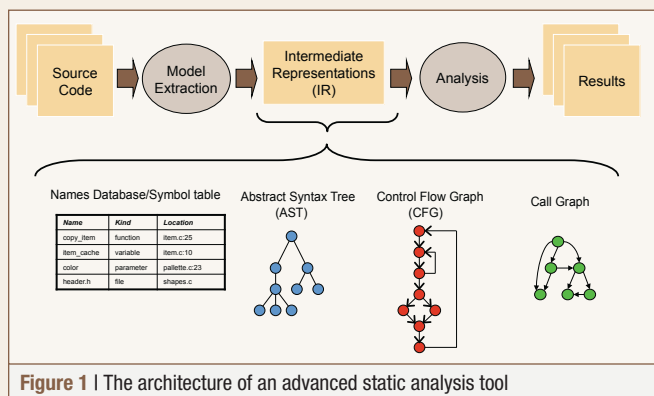

Figure 1 | The architecture of an advanced static analysis tool
Static analysis tools work much like compilers. They take source code as input, which they then parse and convert to an Intermediate Representation (IR). A block diagram of the architecture of an advanced static analysis tool is shown in Figure 1. Whereas a compiler would use the IR to generate object code, static analysis tools retain the IR, and checkers are usually implemented by traversing or querying the IR, looking for particular properties or patterns that indicate defects.